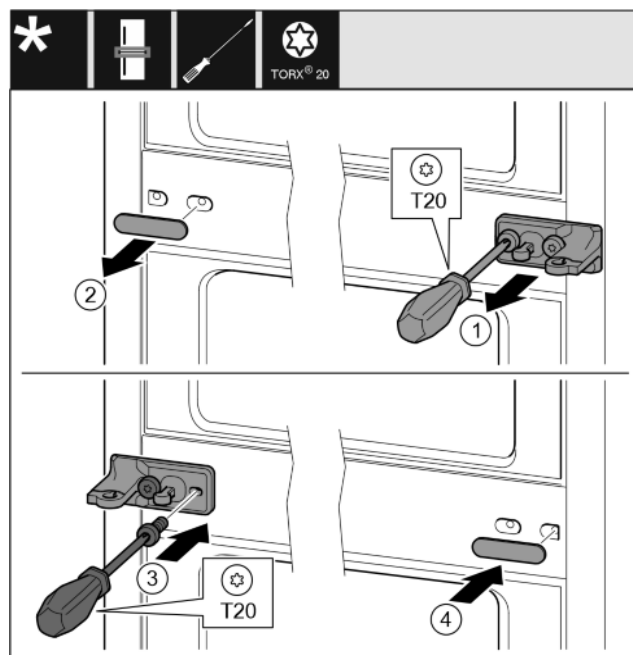

Fig. 26
- Take off the washer. Fig. 26 (1)
- Remove the screws with a T20 screwdriver. Fig. 26 (2)
- Take off the cover carefully. Fig. 26 (3)
- Screw the bearing bracket and the film rotated 180° firmly onto the other side. Fig. 26 (4)
- Attach the cover rotated 180° onto the other side. Fig. 26 (5)
- Push the washer on from the front. Fig. 26 (6)